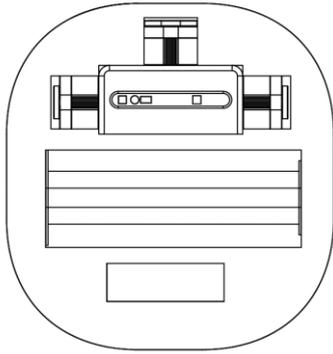

Figure 5
3. As shown in Figure 5, please carefully take out the EPE for fixing the depth camera from the box and then take out the depth camera module from the EPE.